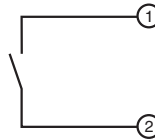
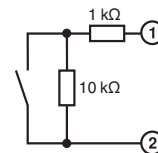

Figure 7 Switch contact with open circuit
Figure 8 Switch contact with resistance circuit
**NOTE:** For **switch contacts with open circuit** (Figure 7), line fault detection (DIP2/DIP4 = I) has to be disabled or the corresponding resistance circuit has to be provided directly at the switch contact (Figure 8, e.g. UKK 5-2R/NAMUR (Order No. 2941662) with D-UKK 3/5 (Order No. 2770024)).
**WARNING:** Apart from NAMUR sensors, **only** switches with resistance circuit are **permitted** at the input for safety-related applications (see Figure 8).